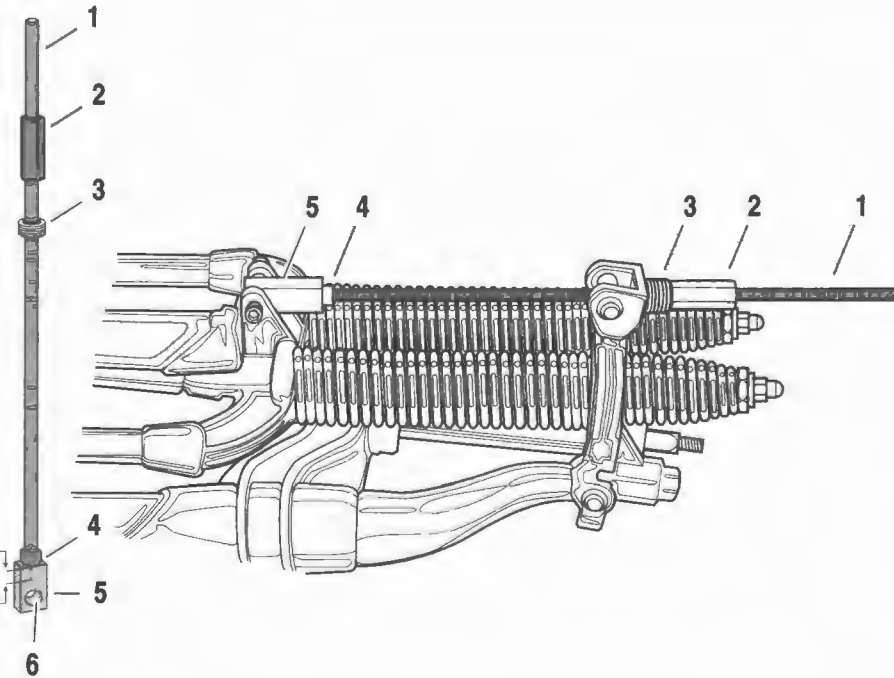

Figure 2-96. Fork Spring Compression Tool
2. See Figure 2-96. Make a spring fork compression tool as shown.
- a. Slide rod, without long hex nut (2) and washers (3), into the hole above the upper shock eye mount.